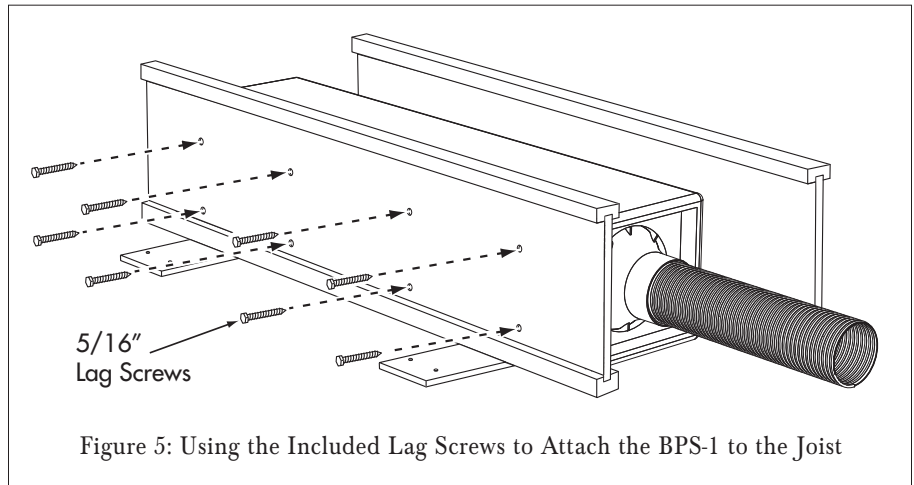

Figure 5: Using the Included Lag Screws to Attach the BPS-1 to the Joist
7. Screw the eight included lag screws through the holes in the joist and into the holes in the side of the BPS-1 cabinet, as shown in Figure 5. Use the shorter lag screws for I-joist construction;